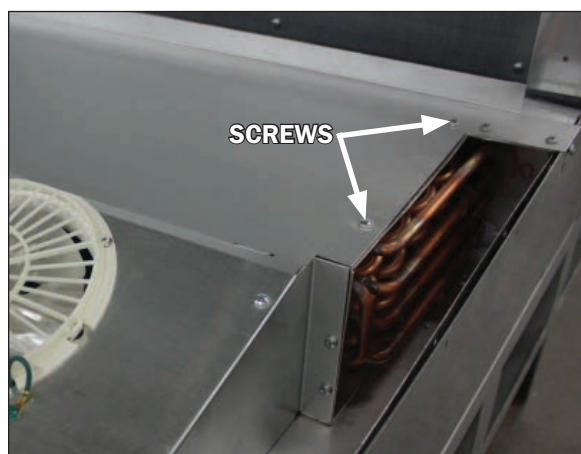

Fig. 14 Coil cover removal
2. Remove the top two screws at both ends of the coil cover (Fig. 14), as well as the screws from the top ends and front sill of the pressure plate cover (Fig. 11). **Be sure to save the removed screws for reassembly.**